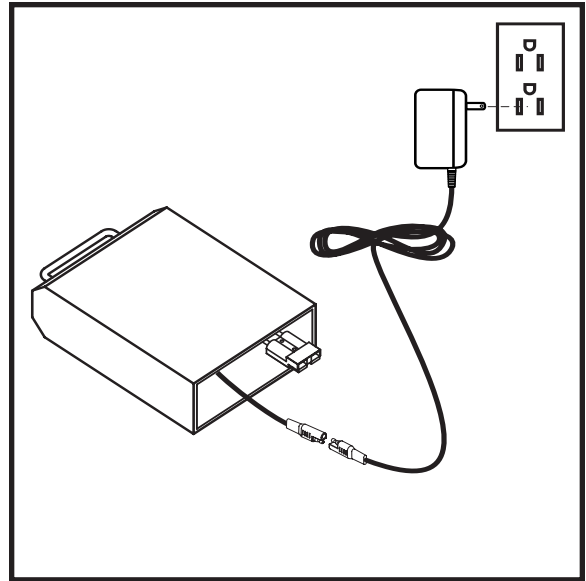

Figure 12. Battery Charging
2. Plug the charger cord into the mating socket located on the bottom of the battery case, then connect the charger cord to a standard electrical outlet. See figure 12.